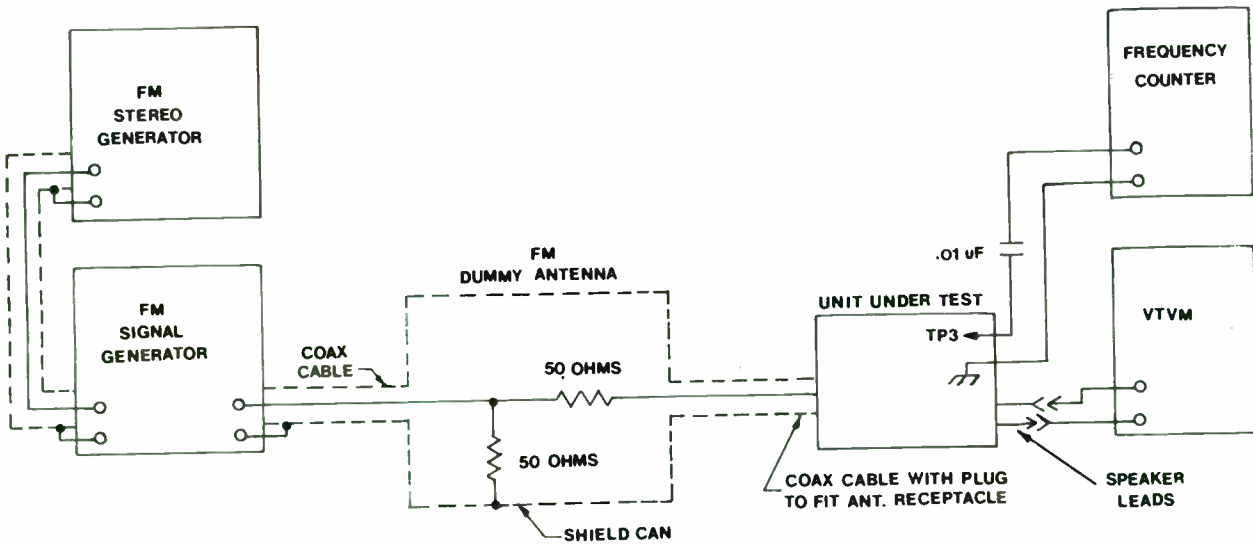

Figure 9 – Test connections for FM RF alignment.
- Dummy Antenna (See Fig. 9)
- A. With connections as shown in Fig. 9, modulate FM signal generator by FM stereo generator as follows: